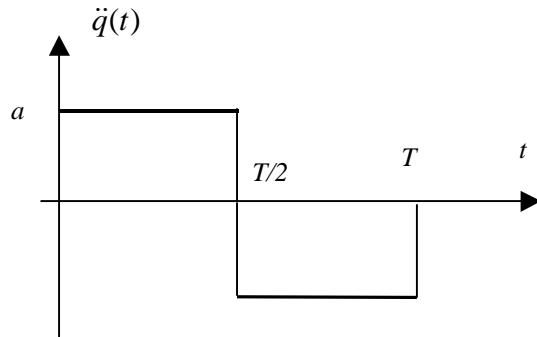

Figure 5
Q.5 (a) Consider a single link prismatic robot with mass  $m = 20\text{ mg}$ . The robot is motionless at  $q = -1\text{ m}$ , and is required to move to  $q = 1\text{ m}$  in 2 seconds and stop there. Assume the joint motion is performed with constant accelerations as shown in Figure 5.